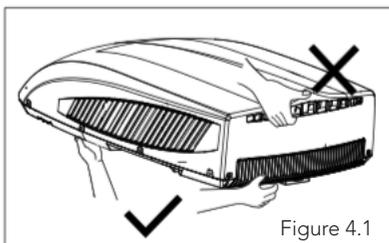

Figure 4.1
1. Open the package and take out the outdoor unit 1) When taking out the outdoor unit after unpacking, do not lift the air outlet grille at the back of outer case (see Figure4-1).